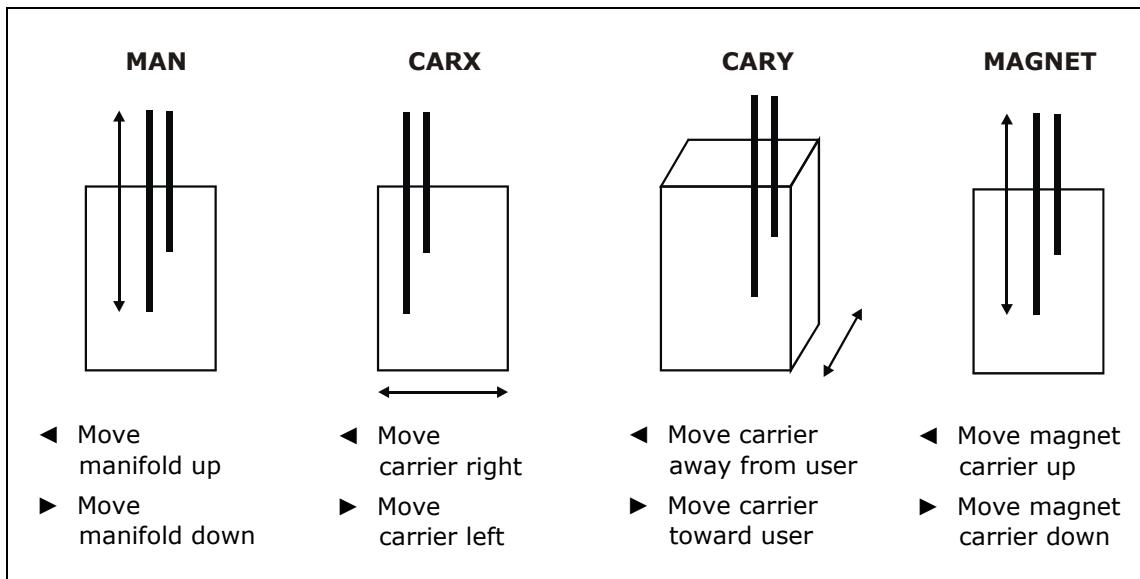

Figure 21: Using the Adjust Utility
6. Press the **◀** (reverse) key to single-step the offset in a negative direction, and the **▶** (forward) key to single-step the offset in a positive direction. See the examples in **Figure 21** on the following page.